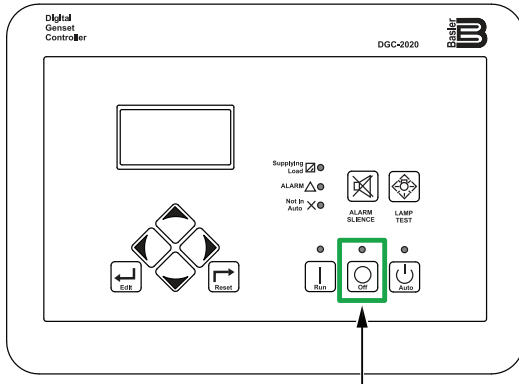

Figure 76. Digital Controller (OFF Button)
1. Press the **Off button** on the digital controller (Figure 76) to stop the engine. The engine will stop after a 1-minute cool-down process.